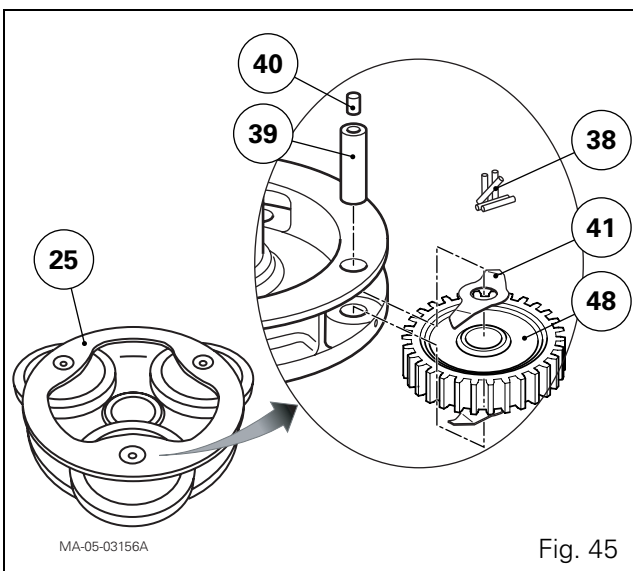

Fig. 45
79. Place the planet carrier (25) in a vice equipped with protective jaws.
80. Using a suitable press and fixture, drive out the pins (39) from the planet carrier (25), pushing from the side where the planet carrier is thickest (Fig. 45).
81. Take out the planetary gear and retain the friction washers (41) and bearing needles (38) (Fig. 45).
85. Place the planet carrier on a suitable supporting fixture. Fit the planetary gear (48) with the needle bearing (38) and the two friction bearings (41) (Fig. 45).
86. Insert the pin (39), then drive it in, using a suitable press and fixture. Insert the pin until it is flush with the planet carrier surface.